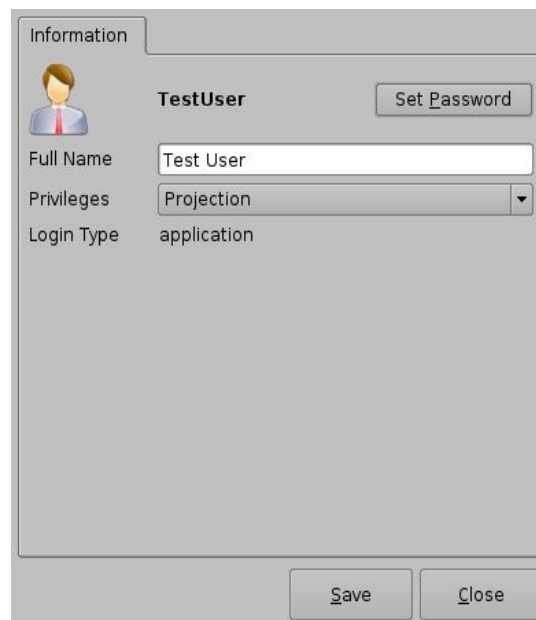

Figure 25: Account Manager GUI – User Properties Editing
- Click the Save button when finished editing the settings (Figure 25).
- Click the Close button when finished with the configuration (Figure 25).